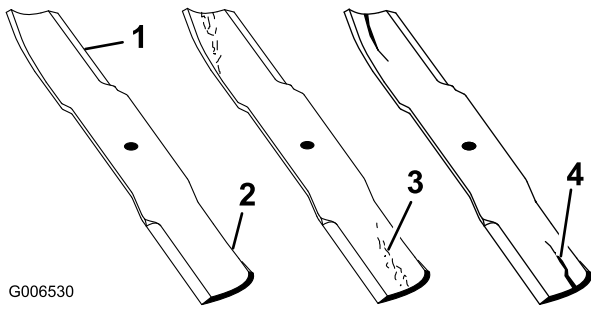

Figure 52
1. Inspect the cutting edges (Figure 52). If the edges are not sharp or have nicks, remove and sharpen the blades; refer to Sharpening the Blades.
2. Inspect the blades, especially the curved area (Figure 52). If you notice any damage, wear, or a slot forming in this area (item 3 in Figure 52), immediately install a new blade.